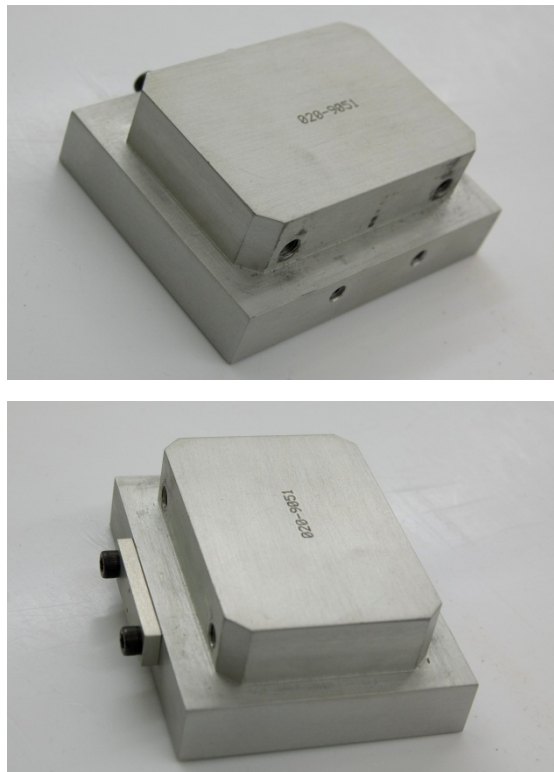
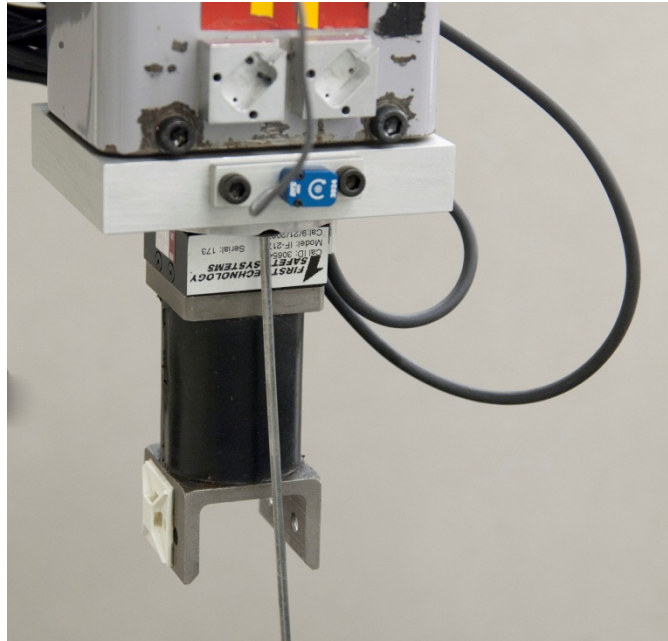

Figure 137. Interface plate for test pendulum
Figure 146. Mount lumbar load cell to pendulum
- Install the Angular Rate Sensor (ARS)³⁹ to the pendulum interface plate using two M1.4 x 8 SHCS so that it measures rotational velocity about the Y' axis (Figure 137 and Figure 146).
- Shows the final setup for the Q3s lumbar spine flexion qualification tests (Figure 146).